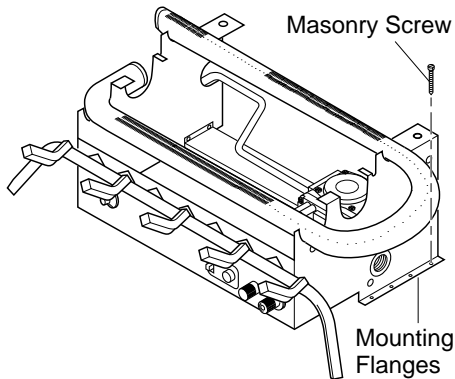

Figure 12 - Attaching Base Assembly to Fireplace Floor
4. Mark screw locations through holes in mounting flanges (see Figure 12, page 11). If installing in a brick-bottom fireplace, mark screw locations in mortar joint of bricks.
- Attach base assembly to fireplace floor using two masonry screws (in hardware package) (see Figure 12).
We recommend that you install a sediment trap in supply line as shown in Figure 12. Locate sediment trap where it is within reach for cleaning. Install in piping system between fuel supply and heater. Locate sediment trap where trapped matter is not likely to freeze. A sediment trap traps moisture and contaminants. This keeps them from going into heater controls. If sediment trap is not installed or is installed wrong, heater may not run properly.